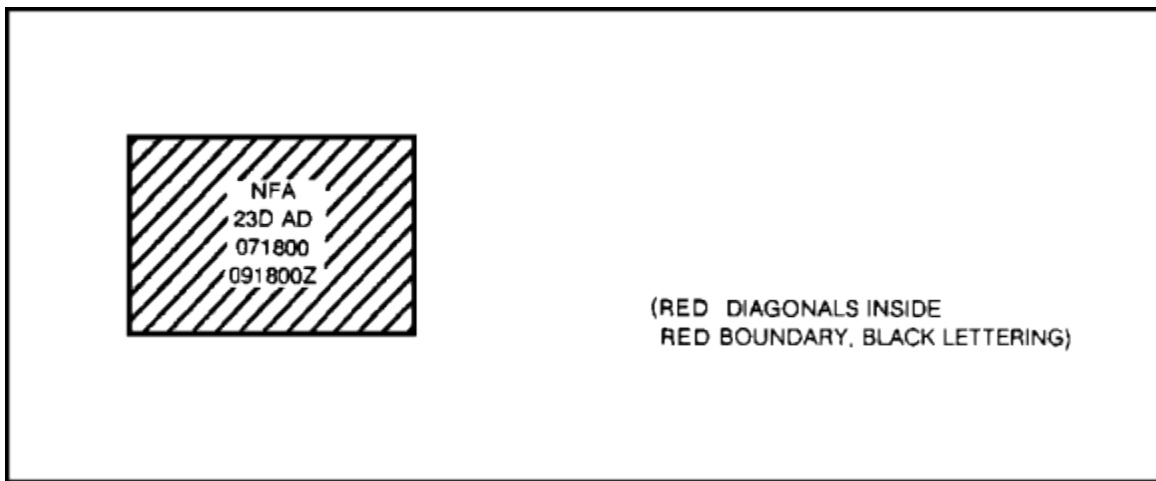

Figure 1-16. NFA graphic symbol
- No-fire area (NFA)—area in which no fires or their effects may be delivered except on a mission-by-mission basis after coordinating with the establishing headquarters. Fires are allowed if friendly forces are attacked by the enemy and if, in the opinion of the senior soldier on site, there is no time to coordinate with the establishing headquarters. An NFA is normally established by division or higher headquarters. The graphic symbol for the NFA is shown in Figure 1-16.